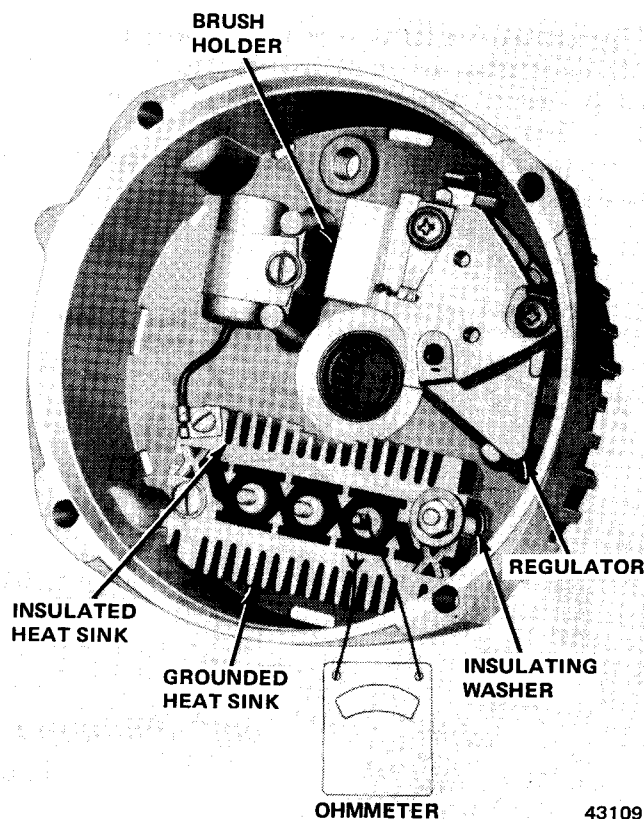

Fig. 3-34 Rectifier Bridge Check
(1) Connect ohmmeter to grounded heat sink and one of three terminal tabs (fig. 3-34). Note reading.
(2) Reverse lead connections to the grounded heat sink and same terminal tab. Note reading.
(3) Replace rectifier bridge if both readings are the same.
(5) Remove rectifier bridge. Note insulator between insulated heat sink and end frame (fig. 3-34).